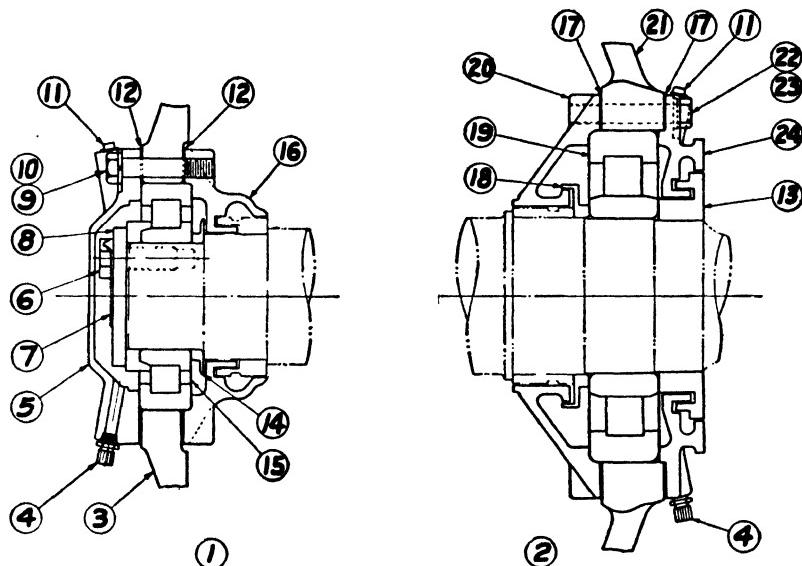

Fig. 12. Bearing Assembly, Traction Motor, Type GE-731
**Disassembly of Motor.** Refer to Fig. 12. Before proceeding, make sure the oil and waste have been removed from the axle caps.
**Reassembly of Motor.** Refer to Fig. 12. 1. Assemble flanges and coils on pole pieces. Bolt pole pieces into frame, drawing tight with coils hot. Fill countersinks around pole piece bolt heads with G-E No. 837 compound to exclude water.
*Dissassembly of Commutator-End Bearings.* Refer to Fig. 12.
*Disassembly of Pinion-End Bearing.* Refer to Fig. 12. 1. Remove the labyrinth sleeve 13. This sleeve contains 4 tapped holes for applying a puller.
*Assembly of Bearings.* Refer to Fig. 12. The order of assembly is essentially the reverse of disassembly. Parts having a shrink fit should be heated in a bath of clean oil or in an oven to approximately 230 F. before mounting. The outer bearing races with rollers